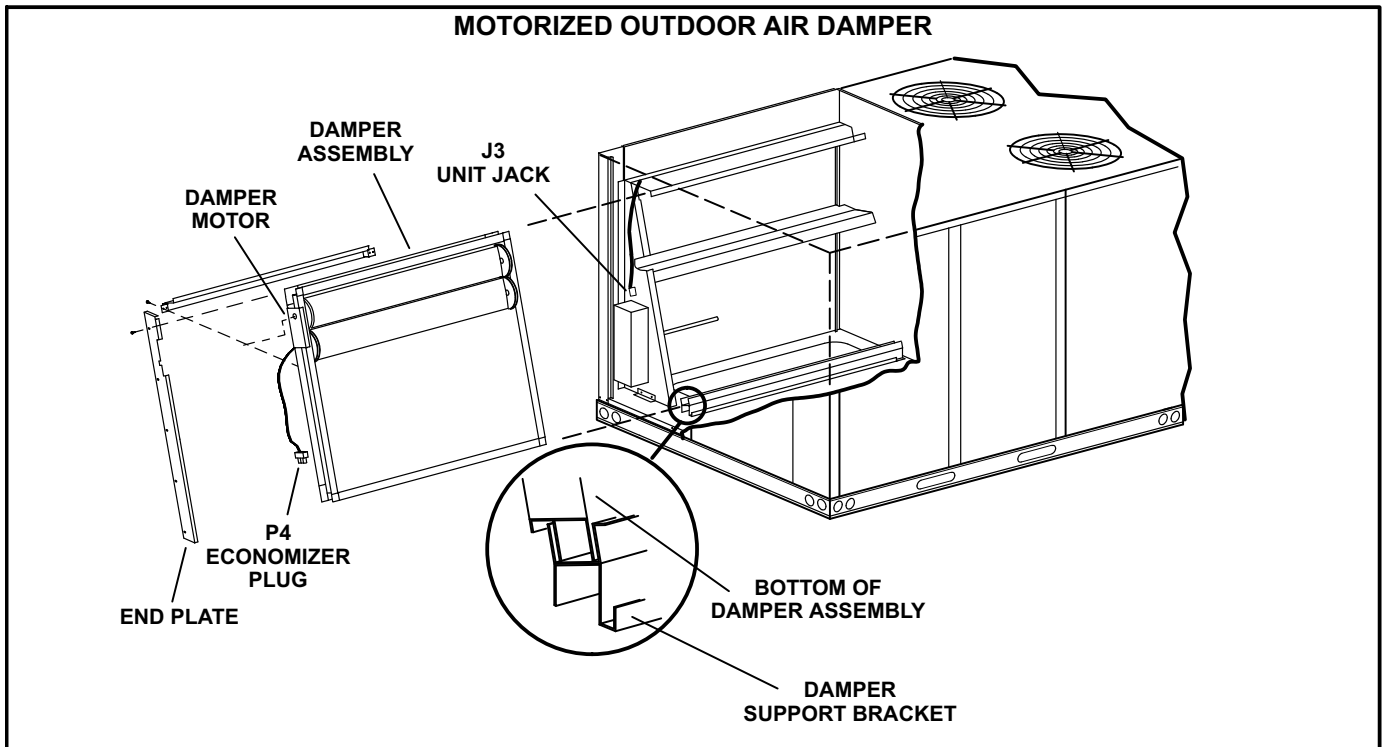
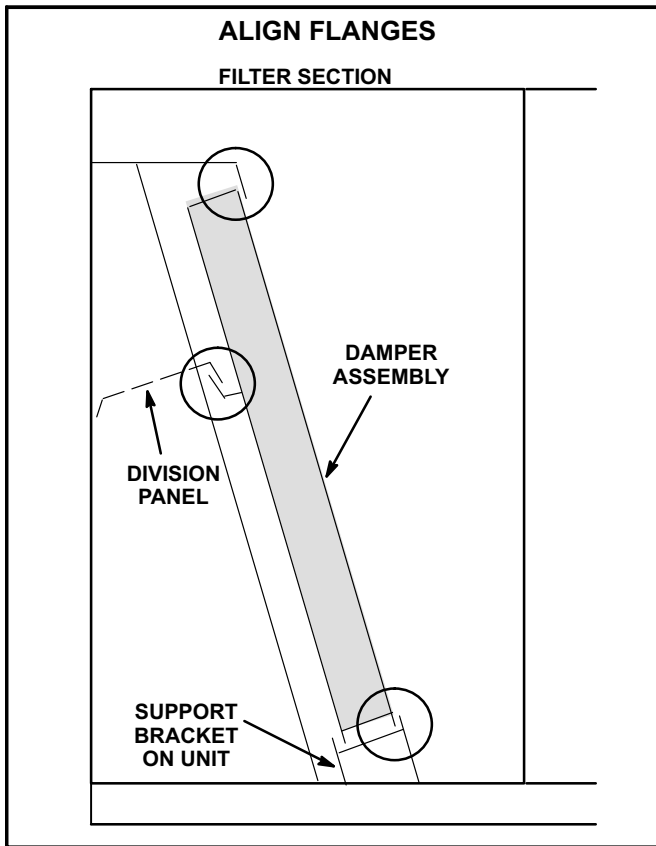

FIGURE 1
FIGURE 3
Damper opens to a set position, as shown in the "Determine Fresh Air Percentage" section, when the blower is operating. To operate the dampers only during the occupied time period, an optional thermostat or energy management system must be installed when a unit is not equipped with a Unit Controller. Both blower operation AND an occupied signal are required for dampers to energize. See figure 1.
- 2- Align bottom of damper assembly with support bracket and slide assembly into unit. See figure 1. Make sure flanges align as shown in figure 3.
- 3- Align bottom of damper assembly with support bracket and slide assembly into unit. See figure 1.